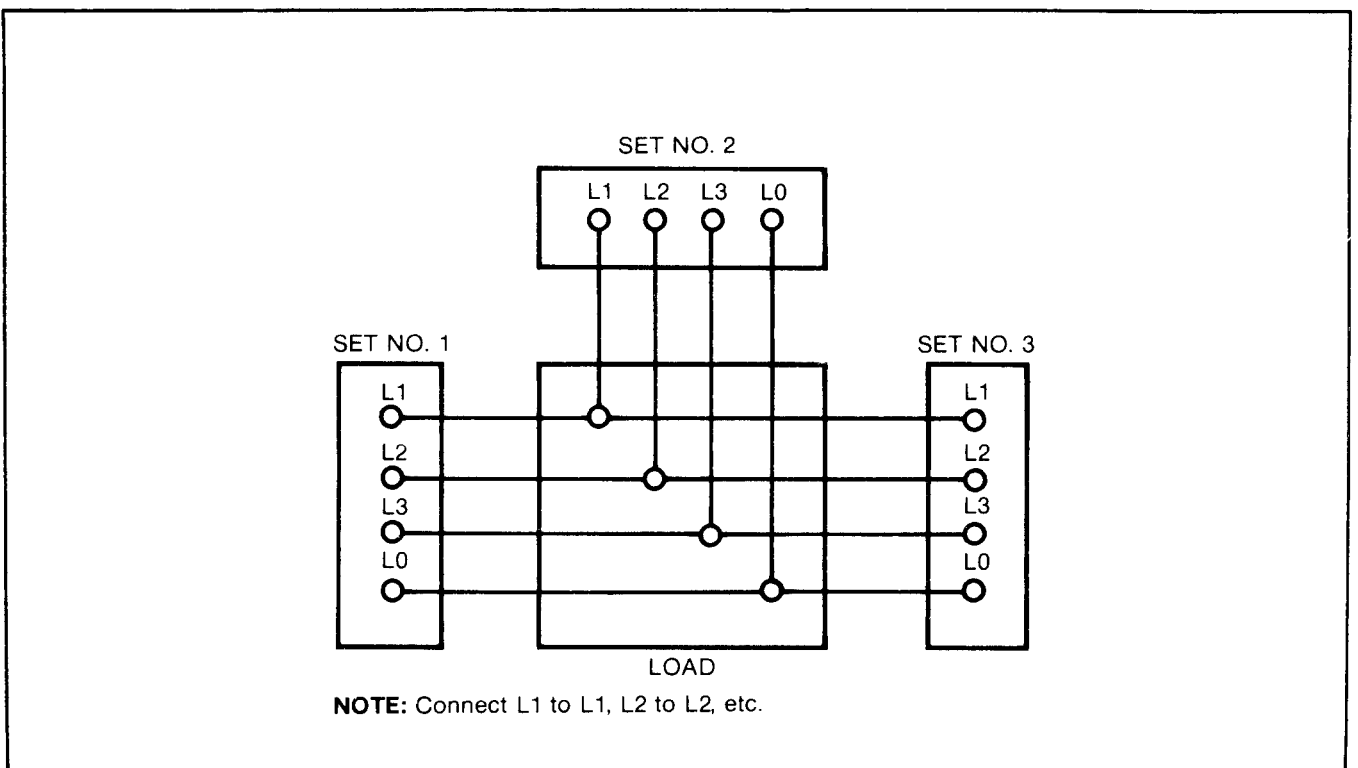

Figure 2-4. Parallel Connection
(1) Identify the units to be paralleled as Unit No. 1, Unit No. 2, and Unit No. 3.
(2) If the generator sets are to share a load greater than the KW rating of a single unit, connect load terminal boards as shown in figure 2-4.